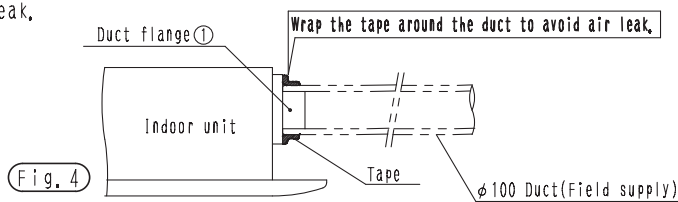

Fig. 4
- Connect the duct to the duct flange. (Flange fits inside the duct,) (Fig.4)